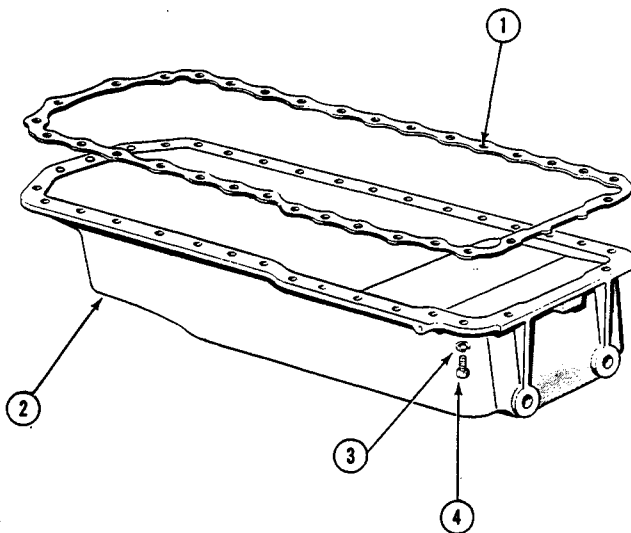

Figure 35
7. Remove all lines and hoses between the radiator/coolers/condenser and the engine. This includes (1) air intake tube, (2) coolant hoses, (3) oil cooler lines, (4) air conditioner lines, (5) hydraulic oil hoses, and (6) power steering oil lines.
12. Support the oil pan. Remove the 31 attaching bolts and lock washers holding the pan to the engine. Refer to Figure 35.